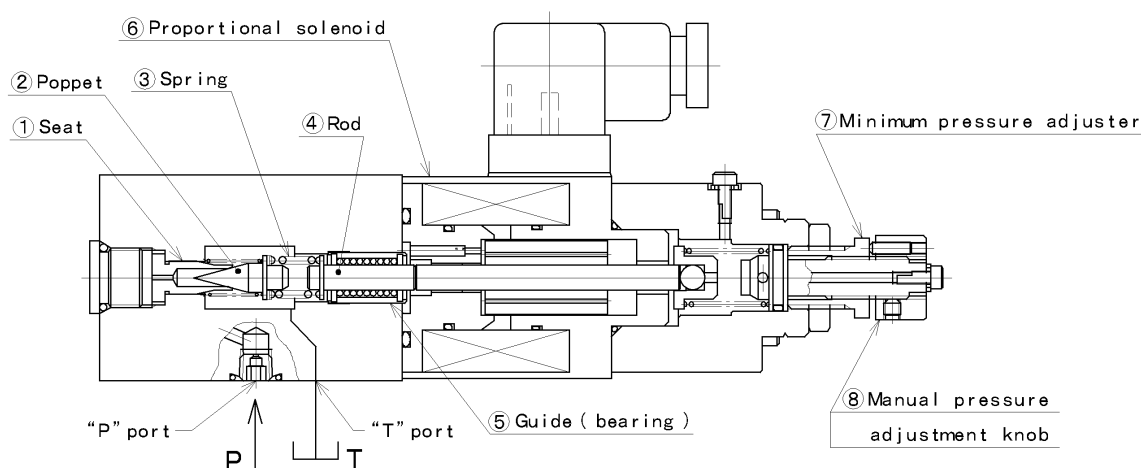

Fig. 1 Pilot pressure control valve (Proportional solenoid operated relief valve)
The construction of pilot pressure control valve EPCG2-01 is shown in Fig. 1.
The principle of operation of the pilot pressure control valve EPCG2-01 is explained first. The construction is shown in Fig. 1.
In Fig. 1, the operating oil flowed in from "P" port is restricted between the seat ① and the poppet ② and flows out from "T" port. The oil from "T" port returns to the tank through "Y" port of EPFRCG valve.
In Fig. 1, the thrust generated in the proportional solenoid presses the poppet ② to the seat ① through the rod ④ and the spring ③.